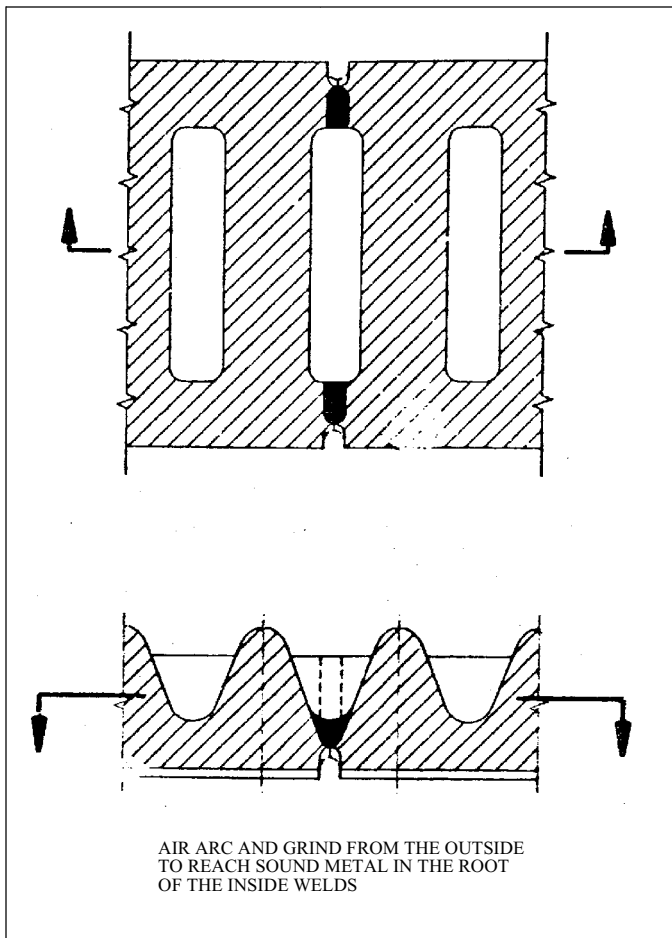

Figure 6-36. Air Arcing
8. Unclamp the rack weldment and re-clamp them rail-to-rail, again with the joints staggered. Do the air-arcing and the welding shown in Figure 6-36 and Figure 6-37. Inspect the finished joints as shown in Figure 6-37.